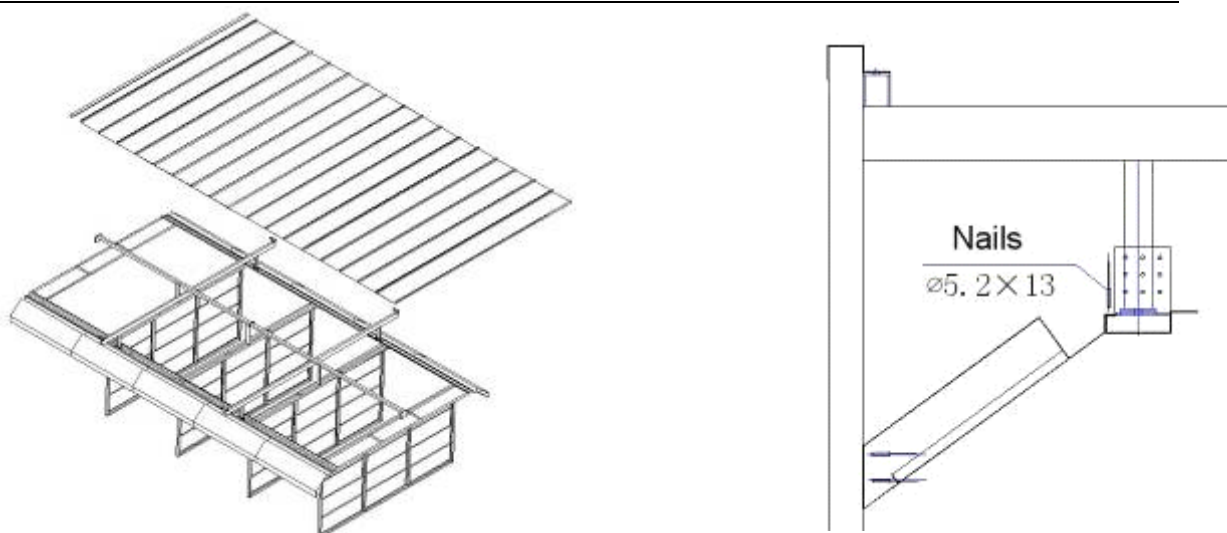

Fig. 3.15
3. Installate the light box with nails and do some sealing with the transparent pastern shown in Fig.3.15